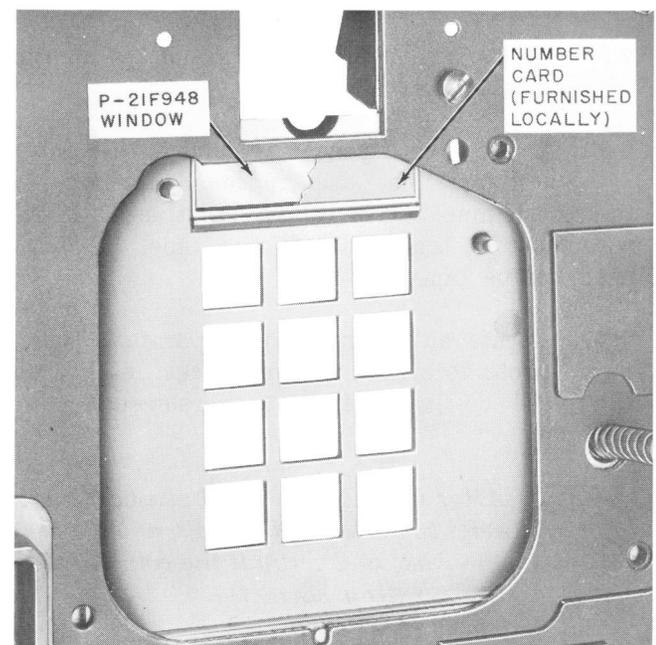

Fig. 10—Window and Number Card Installed in Faceplate (2A2)
- (b) Insert P-21F948 window in faceplate from rear (Fig. 10).
- (c) Insert number card in window (Fig. 10).